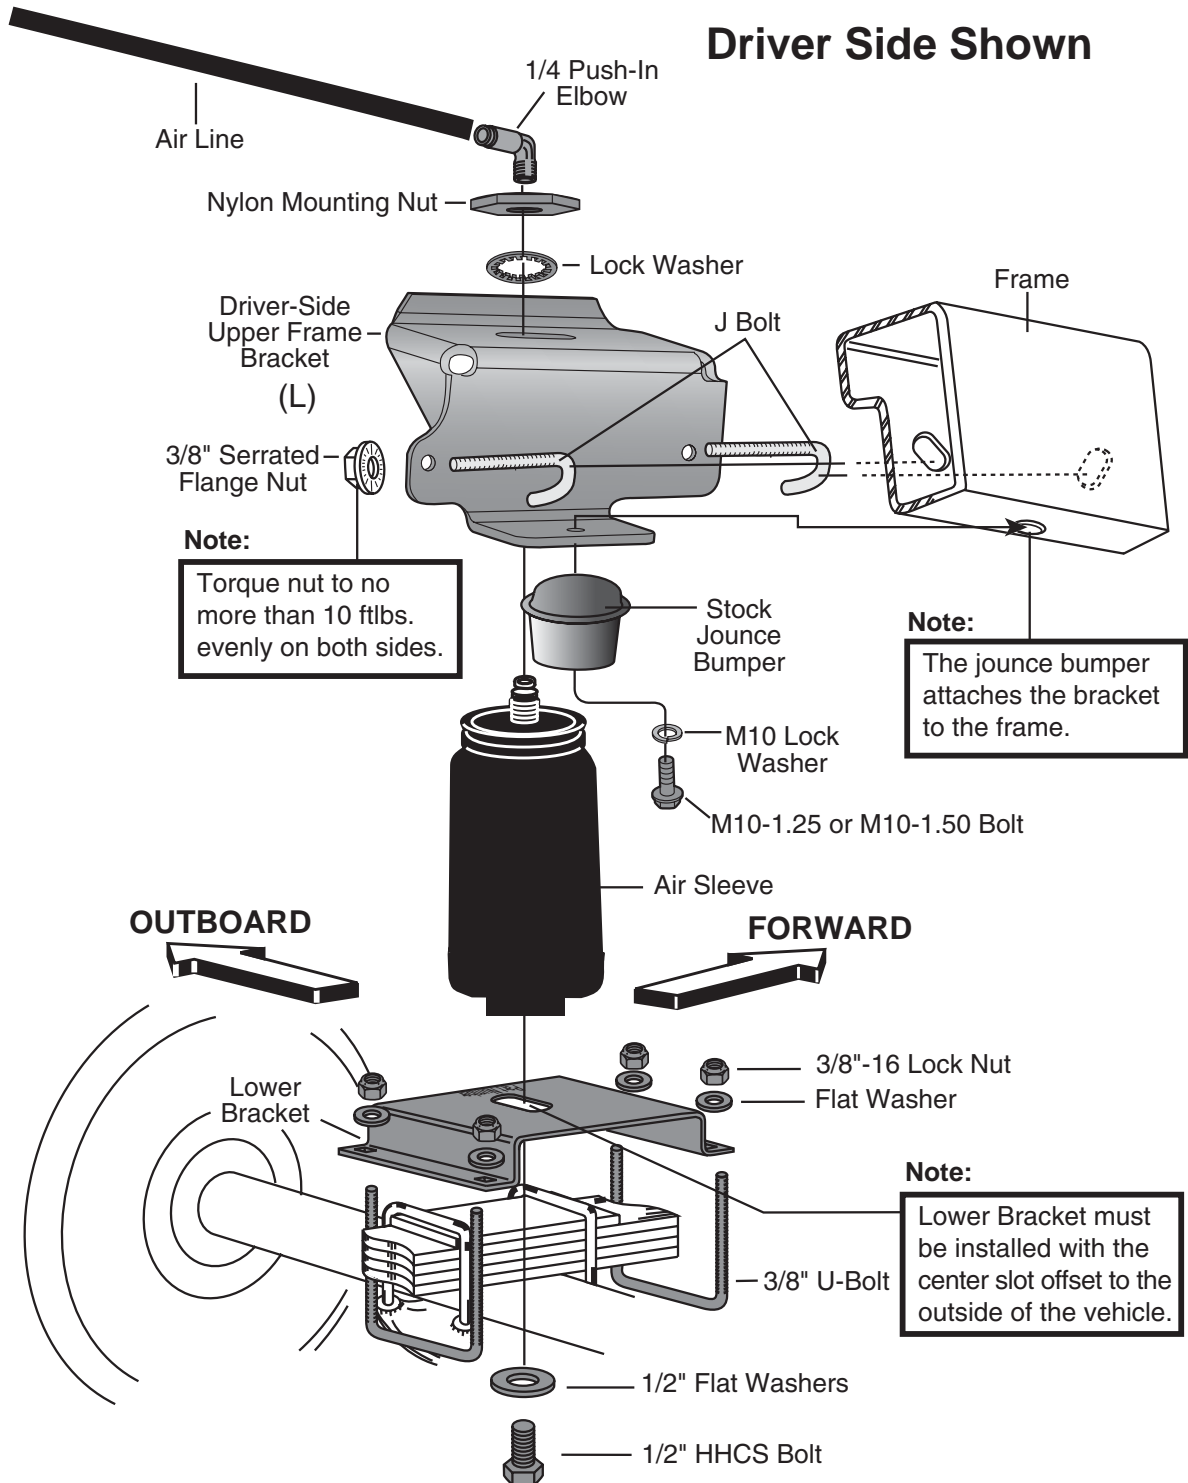

Figure 1
1. Remove the stock jounce bumper from under the frame (Figure 1).
8. Set the lower bracket on the leaf spring above the axle and attach using the supplied U-bolts, flat washers, and nyloc nuts (Figure 1). Tighten securely. Make sure the slot is offset to the outside of the vehicle (Figure 1).
10. Install the nylon nut and lock washer onto the upper threaded post of the air spring. Leave loose for final adjustment (Figure 1).